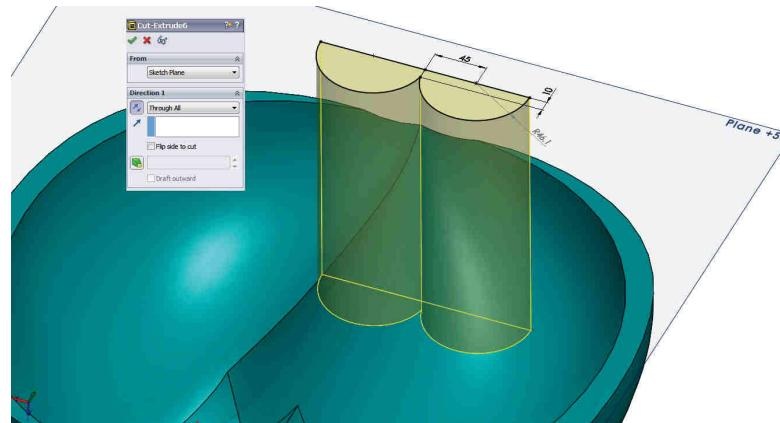

Fig. 3.19
**24 Schițare contur 45x10xR46.1:** comanda Sketch - Fig. 3.19 – Selectie plan +50 / Schițare contur 45x10xR46.1 / .
**24 Sketching of the 45x10xR46.1 contour:** the Sketch command - Fig. 3.19 – Select +50 Plane / Sketch the 45x10xR46.1 contour / .
**25 Creare decupare la intrare – Extrudare contur 45x10xR46.1:** comanda Extruded Boss/Base  - Fig. 3.19 – Direction 1 – Through All / .
**25 Creation of the Entrance Offcut – Extrudation of the 45x10xR46.1 contour:** the Extruded Boss/Base  command - Fig. 3.19 – Direction 1 – Through All / .